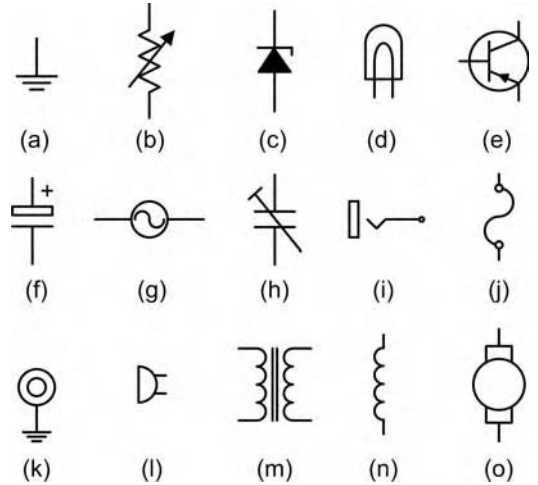

Figure 6.6 See Question 1.
1. Identify components shown in Figure 6.6(a)–(o).